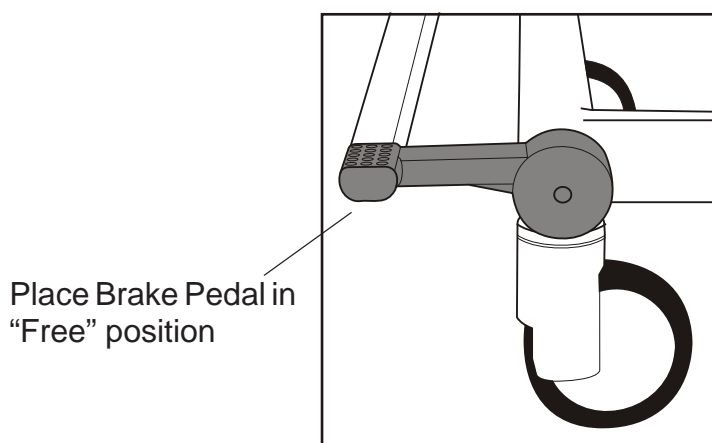

Fig. 6 - Free Position
2. Check that the brakes are unlocked and the brake pedal is in the “Free” position. **(See Fig. 6)**